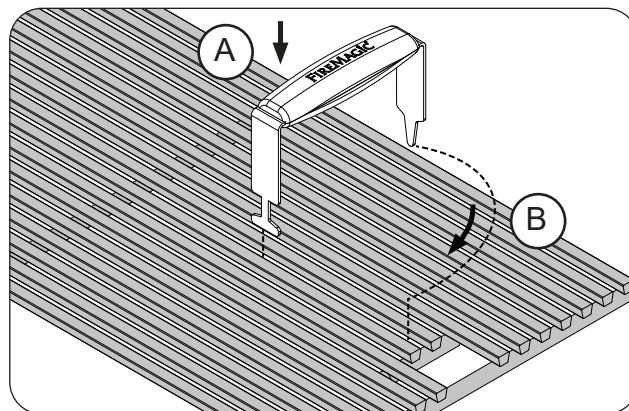

Fig. 32-1 Install cooking grids
1. With the prongs facing downward, insert the notched-end of the lifter between two grid rods, then rotate, as shown in Fig. 32-1, A & B.
2. Insert the rear pointed-end of the lifter between the same two rods (Fig. 32-1, B) and carefully lift the cooking grid and place onto the front and rear grid rests of the grill (see Fig. 32-2). Repeat for all other cooking grids.